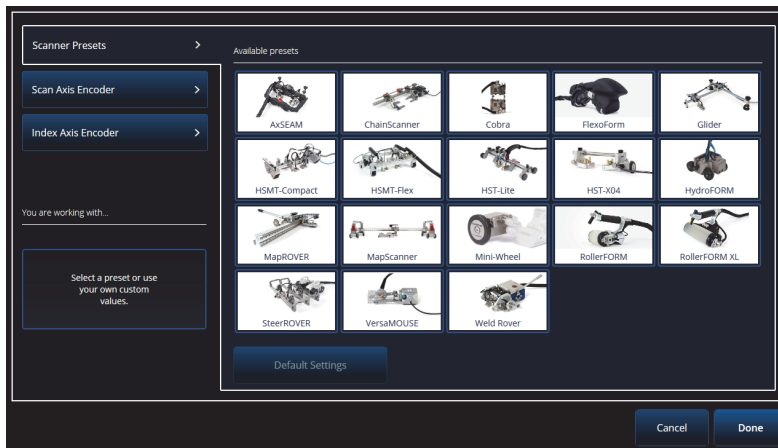

Figure 5-1 Scanner Presets selection list
2. Select **Scan > Inspection > Encoders** to access the encoder setup screen, and set the encoder parameters according to your specifications (see Figure 5-1 on page 188). You can use a preset scanner, or edit the parameters for the axis from this menu.